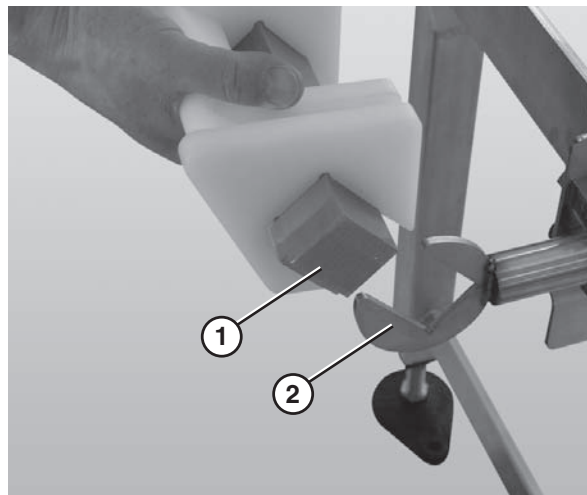

Figure 27
4. Attach the nose bar transfer post (**Figure 27, item 1**) to the nose bar idler shaft hands (**Figure 27, item 2**).